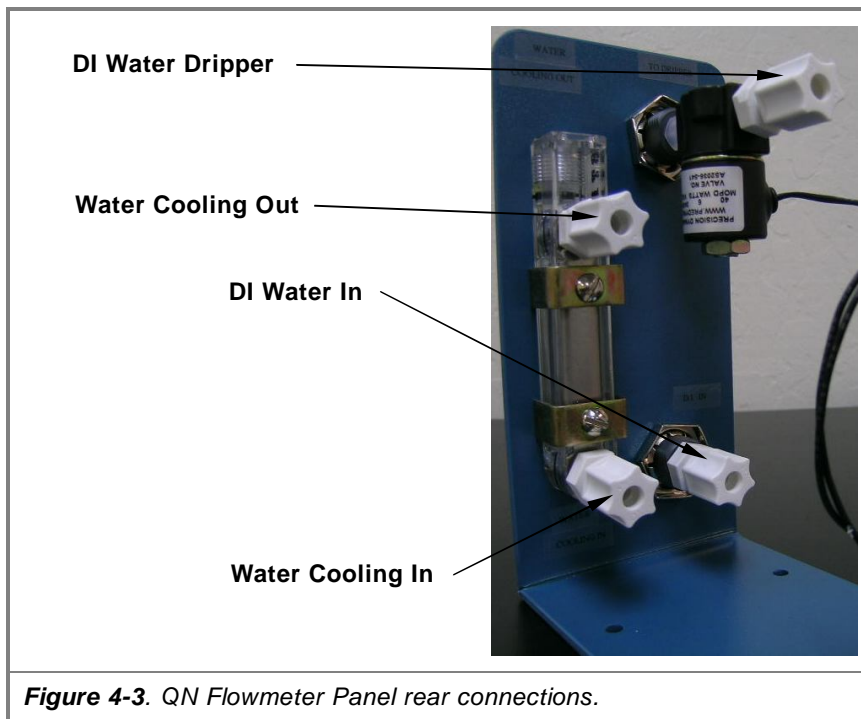

Figure 4-3. QN Flowmeter Panel rear connections.
The IMTEC QN system comes complete with a set of flowmeters mounted on a small panel suitable for mounting in an area that is not exposed to liquids or chemical fumes. On the rear of the flowmeter panel is the dripper solenoid, which has attached power leads terminating in a two-pin AMP male plug, Figure 4-3. The Flowmeter has a 12-inch cable installed. For your convenience a 10-foot extension cable is included in this shipment.
2. Insert the male plug into the matching female two-pin receptacle on the controller's rear panel, Figure 4-3.
3. Connect the incoming cooling water and incoming DI water drip to their respective $\frac{1}{4}$ -inch compression fittings at the rear of the panel, Figure 4-3.